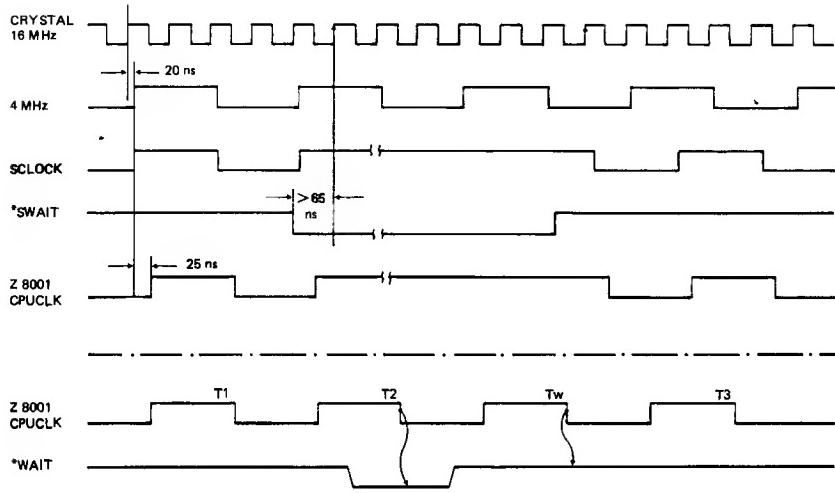

Fig. 2-18 T3 Pulse Stretch Timing
**T3 Stretching** – Figure 2-18 shows the T3`stretch' timing and Figure 2-19 shows a logic diagram of the T3`stretch' circuitry.